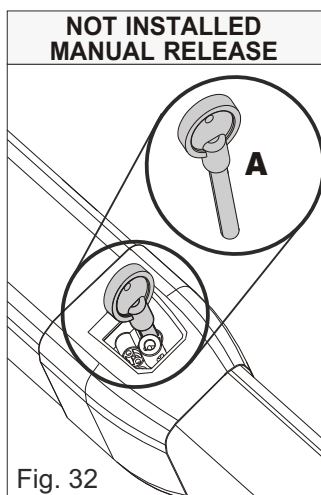

Fig. 32
- **MINI TANK**: disassemble the manual release completely (see next paragraph) then make adjustments using the special key (A) supplied to the installer (Fig. 32)